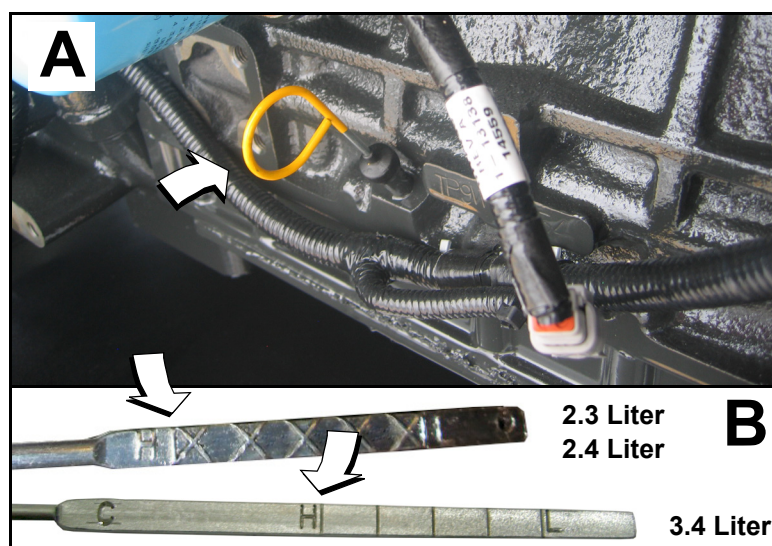

Figure 5-10. Oil Level Dipstick
1. Remove dipstick and wipe with a clean cloth. See A of Figure 5-10.
4. If necessary, remove the oil fill cap and slowly add oil until the level is at the H(igh) mark. See B of Figure 5-10. **DO NOT OVERFILL.**